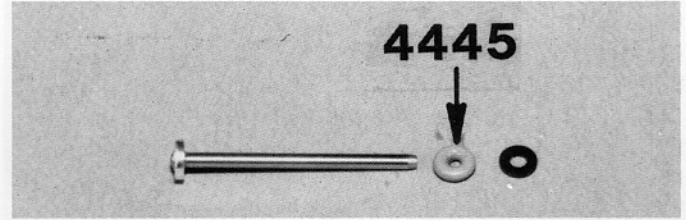

**Fig. 39**
□ **Figs. 39 & 40**—Now we'll assemble the shock. Screw the spring adjustment collar onto the shock body with the stepped end going on first, as shown. Screw the collar all the way on until it bottoms out, and then back it off two full turns. Now screw the plastic ball up all the way onto the threads.